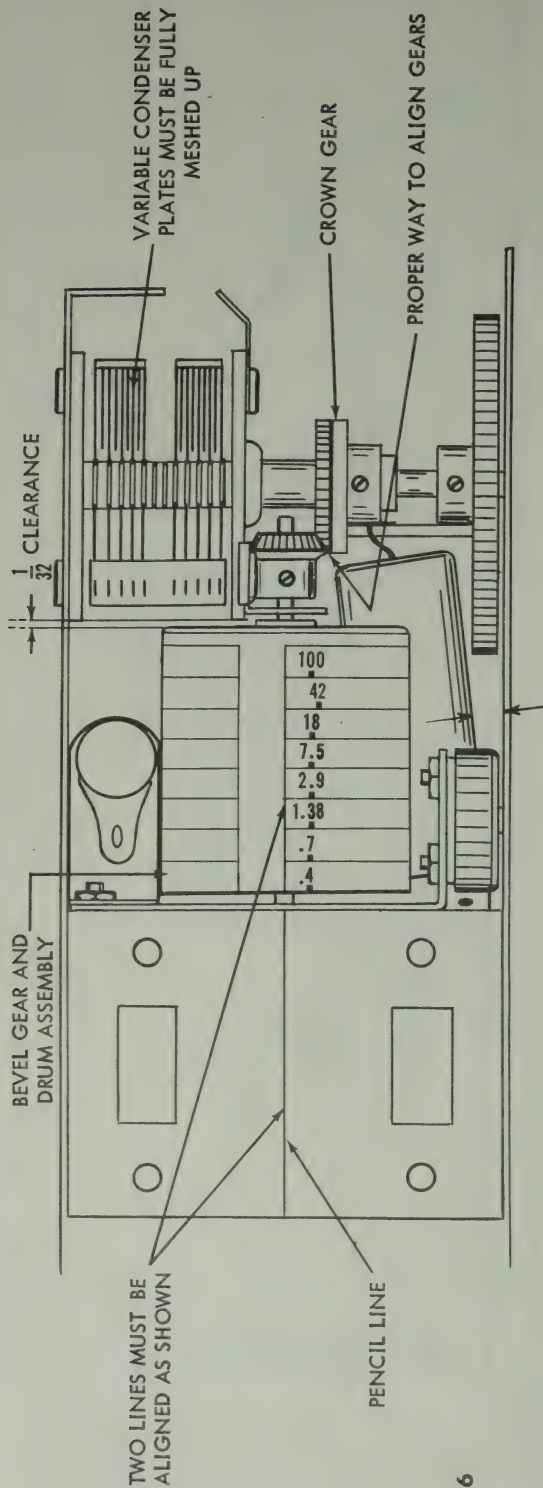
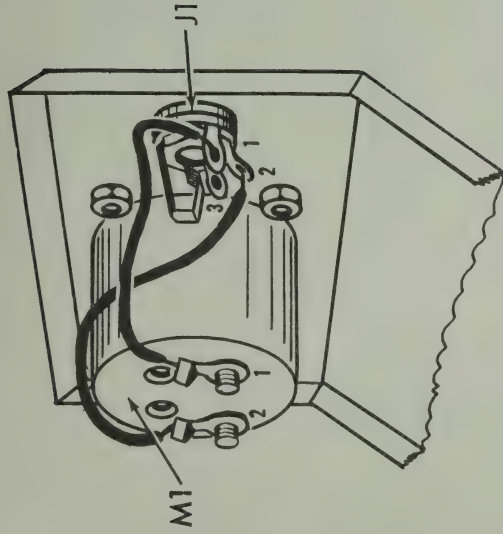

Fig. 6
Fig. 7
- () 5. Fig. 5. Cut the positive (+) lead on the 50 mfd, 150 volt electrolytic capacitor, C6 to 1/2" and connect to TB2-2 (S4). Cut the negative (-) lead to 1" and connect to lug "A" (S2). Position the capacitor so that it is 1/4" from the edge of the chassis. See figure 6.
- () 1. Fig. 6. 1 1/8" from either edge of the top of the "U" shaped bracket, draw a line perpendicular to the variable capacitor. This is at the center of the bracket.
- () 2. Fig. 6. Loosen completely the two screws holding the "U" bracket to the main chassis. The nuts should be held onto the screw with several threads.
- () 3. Fig. 6. Push a spring over the thinner portion of the center axle inside the drum assembly. Do not force the spring over the thicker portion of the axle.
- () 4. Fig. 6. With the left hand, push the "U" shaped bracket toward the 4 post terminal strip TB1, mounted on the main chassis. With the right hand, push the axle with the spring on the drum assembly, through the hole "R" in the "U" shaped bracket. See fig. 5 for location of the hole. The spring tends to push the drum assembly towards the variable capacitor.
- () 5. Fig. 6. The capacitor plates must be fully meshed (maximum capacity). Push the drum towards the "U" shaped bracket so that the clearance between the frame of the capacitor and the body of the drum is 1/32". See fig. 6. Turn the drum so that the beginning of the scale, nearest the .4 mc marking, coincides with the line drawn in step 1, above.
- () 6. Fig. 6. Slip a crown gear over the 1/4" shaft on the variable capacitor. Engage this with the small conical gear, "V", on the drum assembly. Tighten the set screw on the crown gear. Note that the pressure of the conical gear (on the drum) on the crown gear is the force necessary to keep the drum 1/32" from the frame of the variable capacitor. When properly assembled, results will appear as shown in figure 6. Drum will rotate freely with 1/32" axial play compensated by the spring. This is an example of a spring loaded, right angle gear drive which takes out the backlash.
- () 6. Fig. 6. Slip the black tuning knob over the 1/8" shaft on the variable capacitor. Do not tighten the set screw as yet.
- () 1. Fig. 7. Mount phone jack J1 as shown in figure 2. Use the lock-washer, flatwasher and hex nut supplied with the jack to secure it to the panel.
- () 2. Fig. 7. If the meter you have has four mounting studs screws already mounted on the meter movement, push the meter through the holes and mount it with the four #4-40 x 3/16 hex nut. If your meter is of the type that does not have the four screws already mounted to its frame, push 4-40 x 5/16 screws through the four holes on the front of the meter. Secure the meter to the panel using four #4-40 x 3/16 hex nuts. Orient as shown. Note the front panel so that meter is mounted properly up and down.
- () 3. Fig. 7. Connect a 2 1/2" piece of red wire from J1-1 (S1) to M1-1 (S1). Dress the wire close to the meter body and panel, as shown.
- () 4. Fig. 7. Connect a 3 1/4" piece of black wire from J1-2 (S1) to M1-2 (S1). Dress the wire close to the meter body and panel, as shown.
- () 5. Fig. 7. Push the pilot light into the pilot light socket, X11. Place a shield over the pilot light bulb.
- () 6. Fig. 7. Push the 6AF4A tube, V1, into the socket, XV1. The tube is positioned at a slight angle with the chassis, when it fits snugly in its socket.
- () 7. Fig. 7. Unscrew the four screws holding the slide switches, S1 and S2. The panel is mounted to the "U" shaped bracket with these four screws. Slide the black tuning knob, previously mounted on the shaft of the capacitor, so that it fits through the slit marked tuning on the panel. Align the panel so that the inscribed line on the plastic plate, which appears in the center of the trapezoidal cutout, is directly over and parallel to the line used in step 5 referring to figure 6. Tighten the panel to the "U" shaped bracket and the slide switches, using the #4-40 screws just removed from the switches. All controls and both switches should move freely without rubbing or sticking.
- () 8. Fig. 7. Center the black tuning knob in the slit and tighten the screw from the front side of the unit, next to the tube.
- () 9. Fig. 7. Turn tuning knob. Note that it should rotate freely. If it does not, check point of friction. If it hits the side of the tube, bend the tube bracket slightly with a pair of long nose pliers. If it rubs against the electrolytic capacitor, push the capacitor out of the way, so that there is a 1/32" clearance.
- () 10. Fig. 7. Solder the black wire from hole "5" to J1-3 (S1).
- () 11. Fig. 7. Push a 5/16" rubber grommet through the hole in the short side of the cabinet.
- () 12. Fig. 7. Push the end of the line cord with the tinned leads from the outside of the cabinet, through the grommet. Solder one tinned lead to S2-2 (S1) and the second tinned lead to TB1-1 (S2). See Fig. 3.